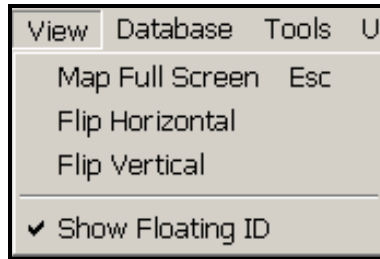

Figure 12. View Menu
As shown in **Figure 12**, the **View** menu contains four (4) choices, which are discussed in detail below.